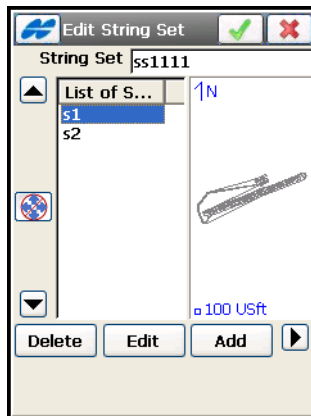

Figure 7-32. Edit String Set
- **Edit** – opens the **Edit String Set** screen, displaying properties of the selected string set (Figure 7-32 on page 7-33).
The *Edit String Set* screen (Figure 7-32 on page 7-33) contains a list of strings that belong to the set, and a scaled plot of a highlighted string.